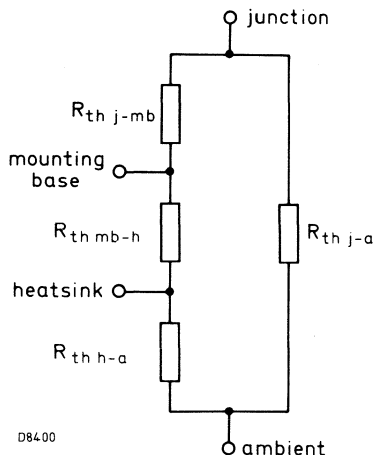

Fig. 4.
- The various components of junction temperature rise above ambient are illustrated in Fig.4.